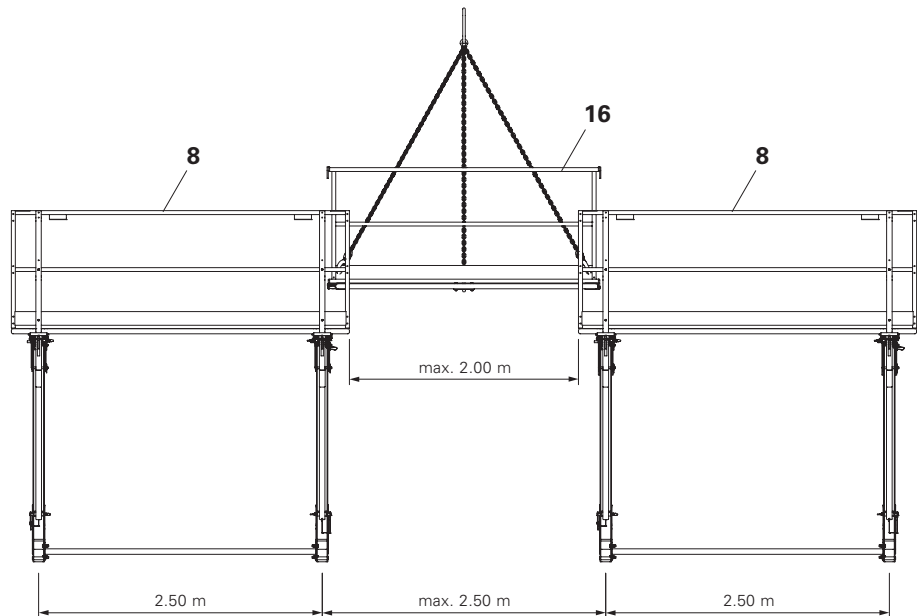

Fig. A3.02
3. Set down intermediate platform centred on 2 main platforms while also attaching the Intermediate Platform Handrail Frame (16) to the Main Platform Handrail Frame (8). (Fig. A3.02)